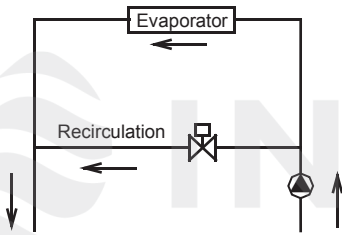

Fig. 4-3
- c. The inlet pipe of the evaporator must be provided with a target flow controller, to realize flow-break protection for the unit. Both ends of the target flow controller must be supplied with horizontal straight pipe sections whose diameter is 5 times that of the inlet pipe. The target flow controller must be installed in strict accordance with "Installation & Regulation Guide for Target Flow Controller" (Figure 4.3~4.4). The wires of the target flow controller should be led to the electric cabinet through shielded cable (see Electric Controlling Schematic Diagram for details). The working pressure of the target flow controller is 1.0MPa, and its interface is 1 inch in diameter. After the pipelines are installed, the target flow controller will be set properly according to the rated water flow of the unit.
- Schematic diagram of target flow controller(see Fig.4-3 Table4-2)